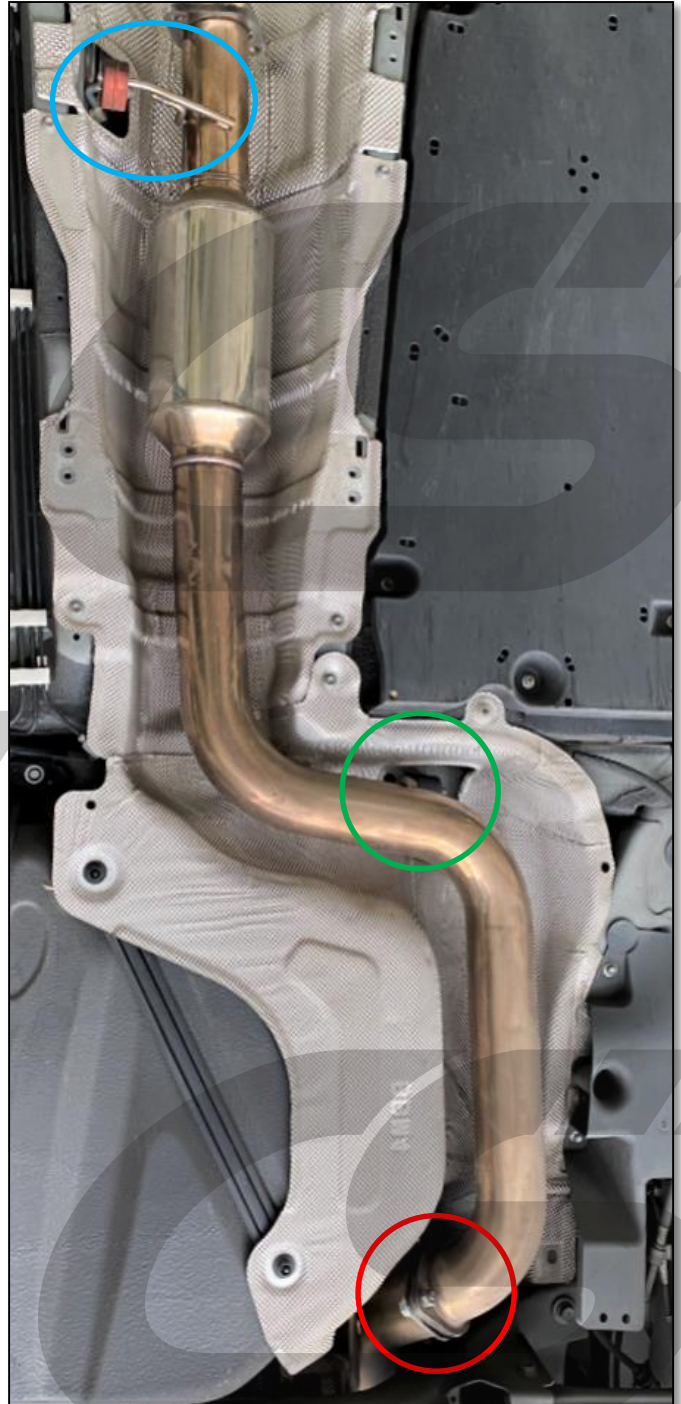

Figure 4a
- a) Using a 17mm, or 14mm for OEM, socket and wrench, remove the bolts connecting the front midpipe section from the rear midpipe section. Location circled in red in **Figure 4a**.
- b) Remove the forward exhaust hanger using channel lock pliers or exhaust hanger pliers. Have a friend support the exhaust after removal and during the next step. Hanger shown circled in blue in **Figure 4a**.
- c) Remove the rearward exhaust hanger using channel lock pliers or exhaust hanger pliers. The forward midpipe section can then be removed from the vehicle. Hanger shown circled in green in **Figure 4a**.